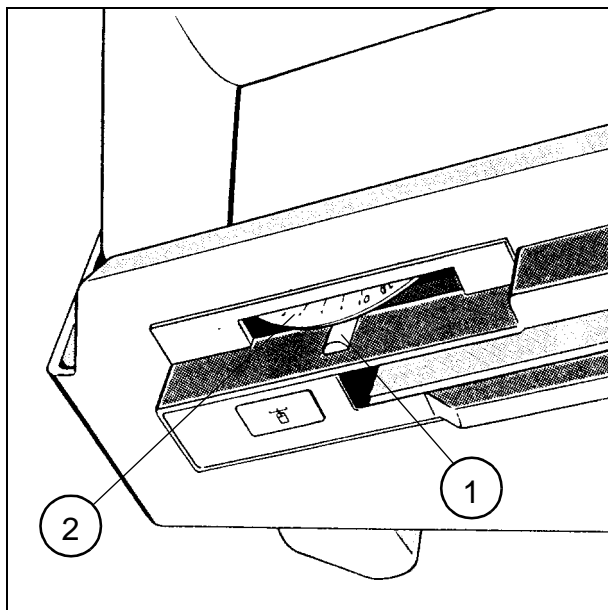

Fig. 6
- Set R or L exposure (1/Fig. 6).
- Set a random time on the timer (2/Fig. 6).